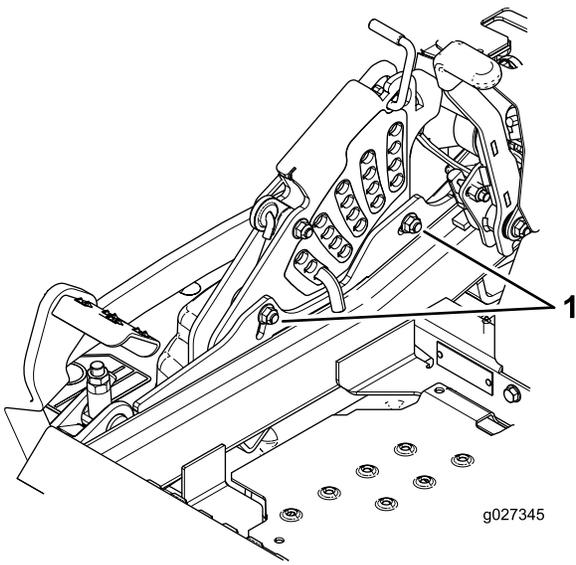

Figure 90
- 12. To adjust the single point system, loosen the 2 bolts at the bottom of the height-of-cut plate. Refer to Figure 90.
14. Tighten the 2 bolts at the bottom of the height of cut plate (Figure 90). Torque to 37 to 45 N-m (27 to 33 ft-lb).